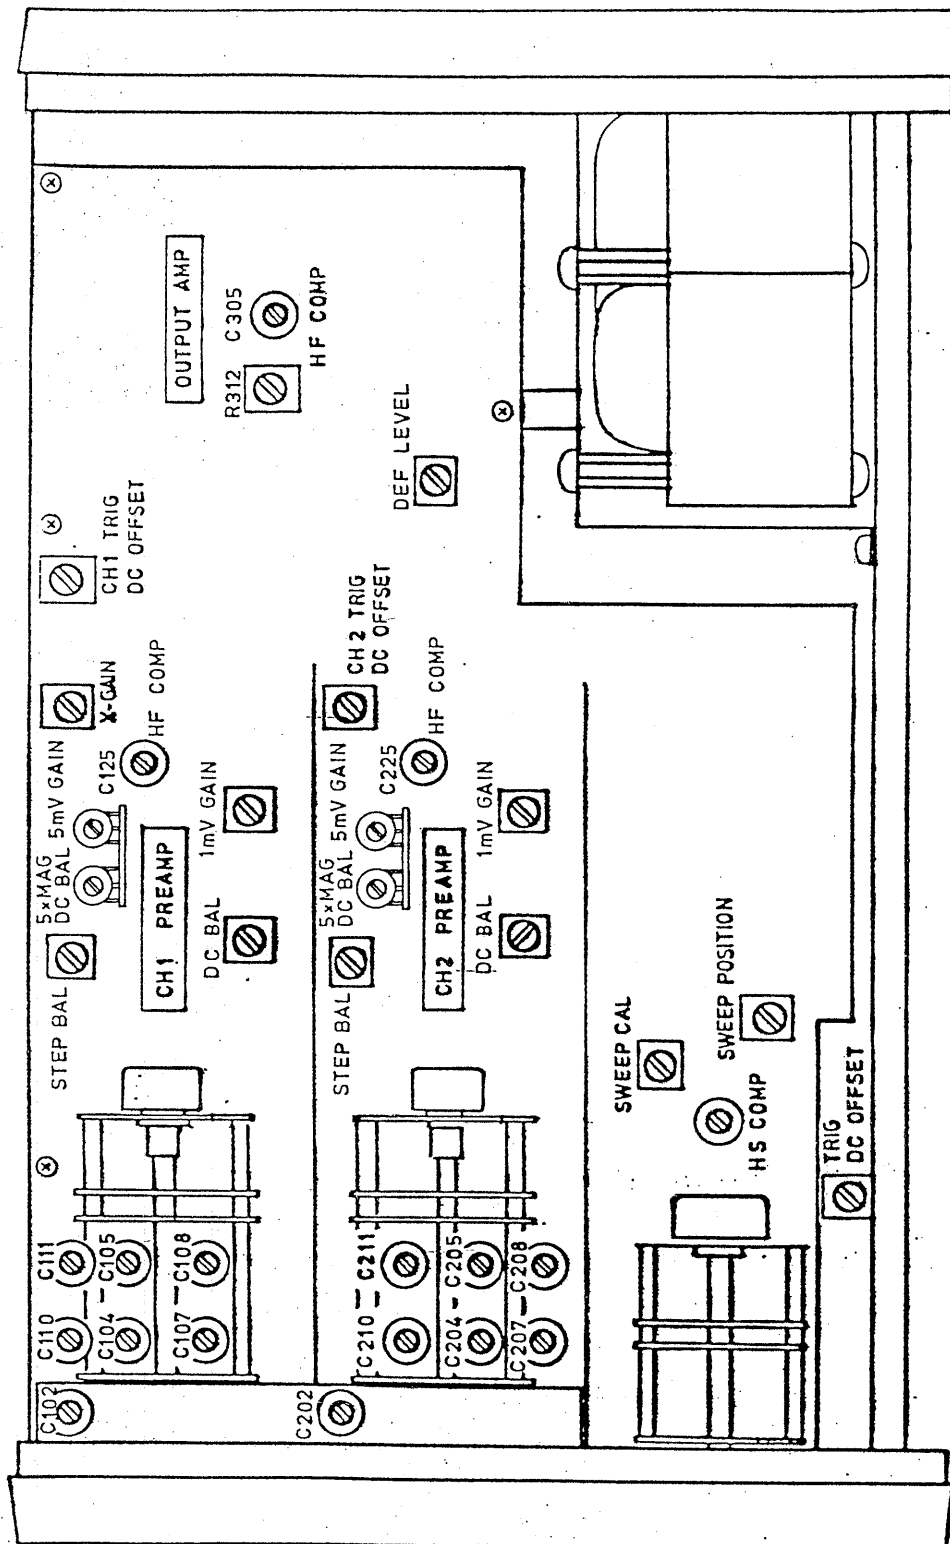

Fig. 24
6.3 Adjustment of Vertical Axes (Refer to Fig. 24.)
- (1) Set the GND button in position, and display a horizontal trace line in the CRT screen.
- (2) Adjust the STEP BAL control (Refer to Fig. 24.) so that the shift of the horizontal trace line is made minimum, when the VOLTS/DIV switch is set in the 5mV range from the 20mV range or in the 20mV range from the 5mV range.
- (1) Set POSITION knob in normal position and adjust the horizontal trace line on the center of the graticule line and then pull-out the knob as it is.
- (2) Adjustment of the 5X MAG DC BAL (See Fig. 24.): Adjust the horizontal trace line on the center of the graticule line.
- (1) Set VERT MODE in CH1 (or CH2), and display a horizontal trace line in the CRT screen.
- (2) Adjust the DEF LEVEL control (Refer to Fig. 24.) so that the potential of the pin Y of CRT is in 80V.
- (1) Set the 5mV/DIV of the VOLTS/DIV switch and pull-out the POSITION knob. Add input signal of 8mVp-p from output of the oscillator into the vertical input terminal.
- (2) Set the vertical variable knob to the CAL'D position and adjust the GAIN control at 1mV (See Fig. 24.) so that the waveform which has an amplitude corresponding to the value of 8DIV displayed on the CRT.
- (3) Set the POSITION knob in normal position and Add input signal of 40mVp-p from output of the oscillator into the vertical input terminal and adjust the GAIN control at 5mV (See Fig. 24.) so that the waveform which has an amplitude corresponding to the value of 8DIV displayed on the CRT.
- (1) Set the VOLTS/DIV switch in the 5mV range, and adjust the output voltage of the square wave generator so that the amplitude displayed on the CRT screen is 4 DIVs.
- (2) Set the TIME/DIV switch in 0.5 μ s range, and adjust the HF COMP. control (Refer to Fig. 24.) so that the top of the square wave is flat. Frequency characteristics of vertical amplifier is adjusted within 0 \sim \pm 3dB at DC \sim 10MHz.
- (1) Apply the 1ms interval time marker signal or the 1kHz signal to the vertical input terminal, and set the TIME/DIV switch in the 1mS range. Adjust the amplitude of a signal or the VOLTS/DIV switch so that the waveform of an appropriate amplitude is displayed on the CRT screen.
- (2) Adjust the SWEEP CAL control (Refer to Fig. 24.) so that the repetition period of waveform corresponds with vertical graticule lines.
- (3) Apply the 10 μ s interval time marker signal or the 100kHz signal to the vertical input terminal, and set the TIME/DIV switch in the 10 μ S range. Adjust the HS COMP. control (Refer to Fig.24.) so that repetition period of waveform corresponds with vertical graticule lines. By this adjustment, sweep times of all ranges of the TIME/DIV selector are calibrated, and the function of the 5x MAG is also calibrated by the same adjustment without any other adjustment.
6.5 Adjustment of Horizontal Axis (X axis) (Refer to Fig. 24 .)